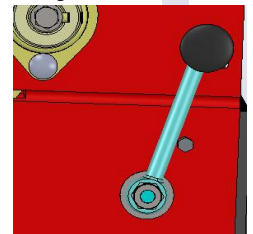

Figure 2
2. Make sure that the parking brake lever is in "ON" position. (figure 2)